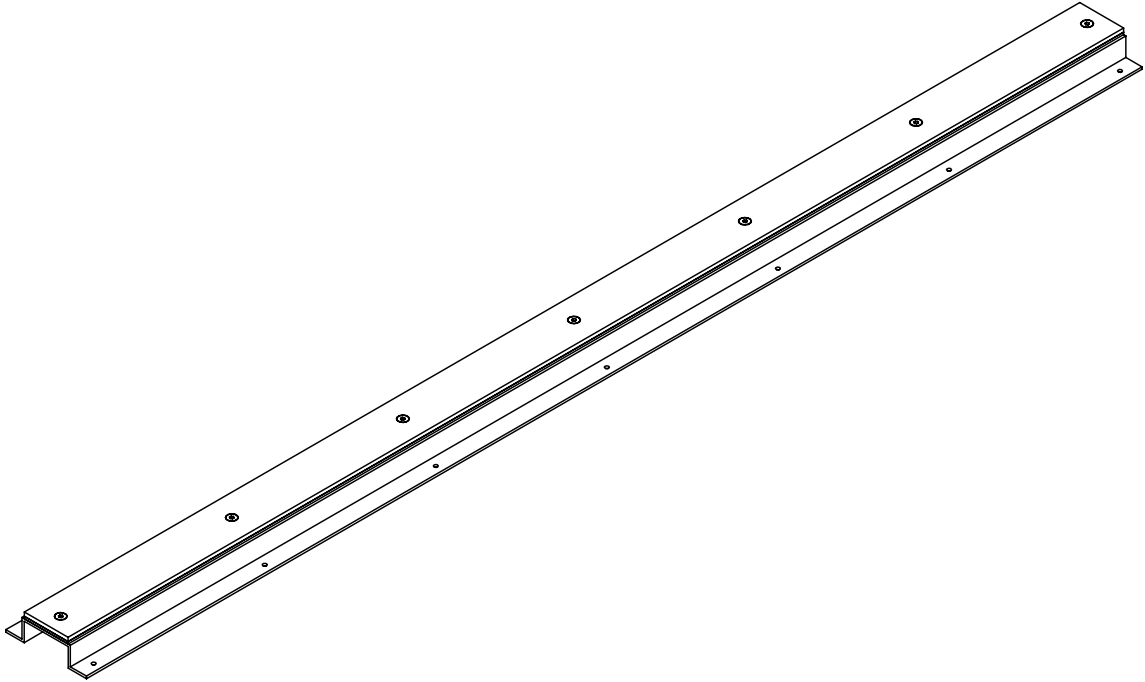

Figure 15 Nylon Slide in Pedestal and Side Lobe Canceller Antenna Stowage
- b. Remove the seven (7) screws from nylon slide to be replaced (see Fig 15).
- b. Secure in position using the seven (7) loctite coated screws.